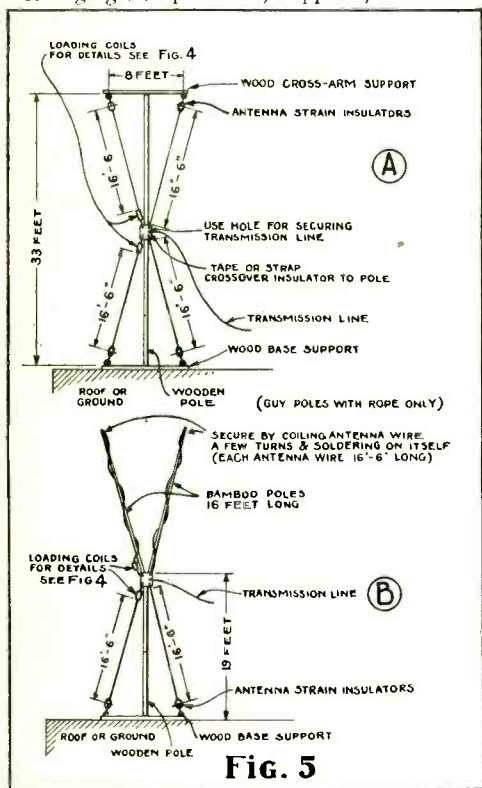

Fig. 5
A. Yes and no. There is no directional effect with the vertical doublet, but, on the other hand, the horizontal doublet usually has a better signal to noise ratio. An advantage perhaps is that in some locations a vertical doublet of the type shown in Fig. 5 may be easier to install.